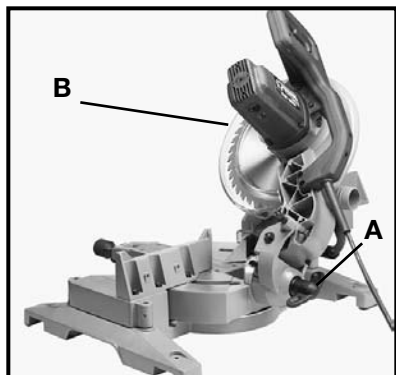

Fig. 23
1. The cuttinghead of your compound miter saw can be tilted to cut any bevel angle from a 90 degree straight cut-off to a 45 degree left bevel angle by loosening bevel lock handle (A) Fig. 23, tilting cuttinghead (B) to the desired angle, and tightening lock handle (A).